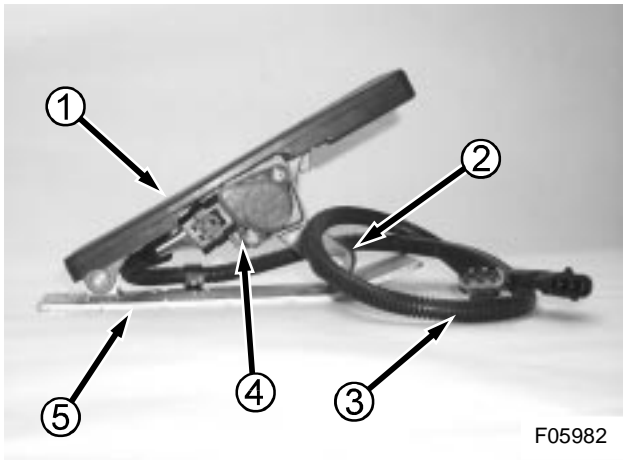

Figure 1: Accelerator pedal assembly
The accelerator pedal consists of an electronic throttle assembly, mounted to a foot pedal with rubber tread. The pedal assembly is secured through a hinge to the brake pedal mounting plate with screws. The throttle incorporates a spring returned roller actuating mechanism, a throttle position sensor and integrated idle validation switch, an interconnecting harness, a transmission modulator control switch (KD), and a floorplate (see Figures 1 and 2).